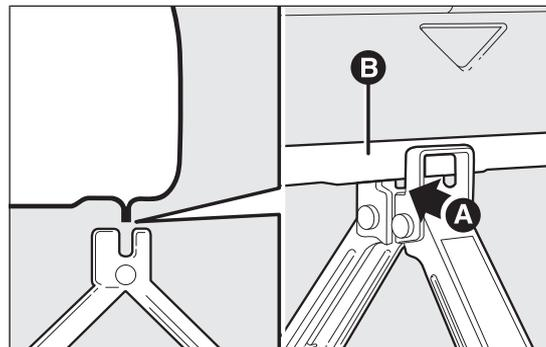

fig. 122
- turn the jack to open it until the groove A fig. 122 of the jack is correctly inserted in the lower profile B on the side member: